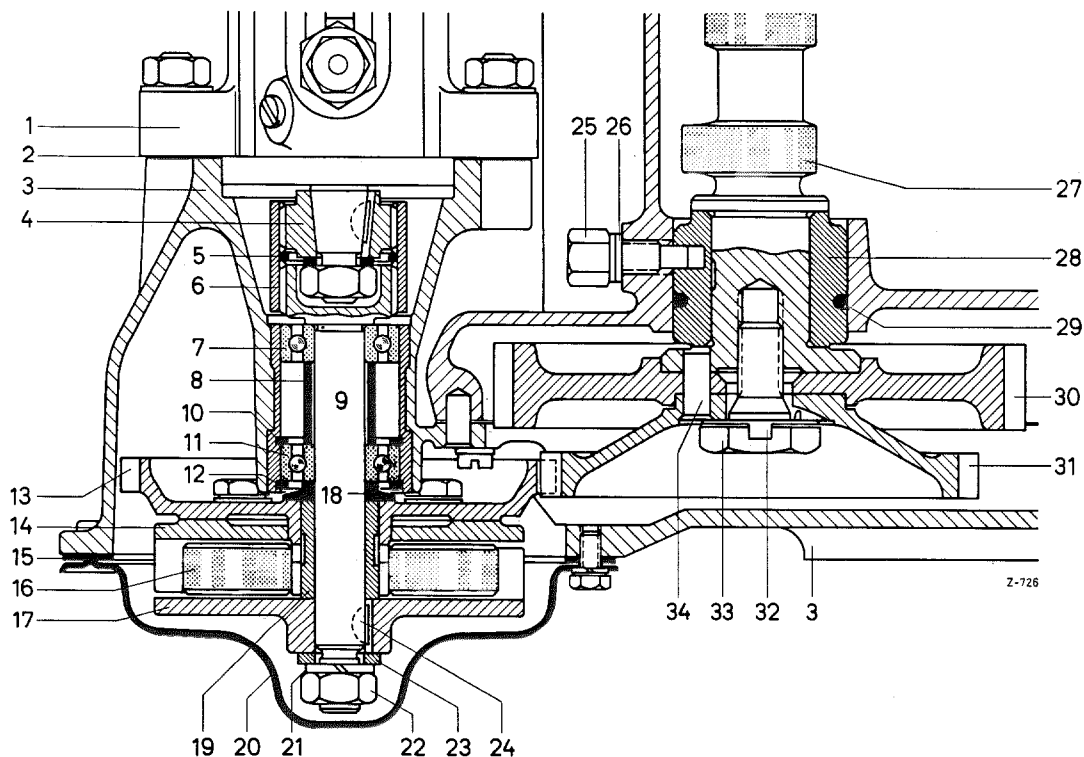

Figure 07-27/4
11. Oil the front annular grooved-bearing (11) and press it into the timing housing cover.
**Note:** If a new timing housing cover is installed, insert first the inner guard ring (10).
12. Insert the guard ring (12) in the front annular groove.
13. Press the rear annular grooved-bearing (7) onto the new longer driving shaft (9) Part No. 636 077 05 05.
14. Put the spacer (8) with a length of 24.2 mm on the driving shaft (9) and install the driving shaft in the timing housing cover (see Figure 07-27/4).
15. The thrust washer (18) Part No. 636 075 00 62 must be mounted on the driving shaft in such a way, that the small collar presses against the inner race of the annular grooved-bearing (11). **Make sure that this thrust washer is installed correctly**, because otherwise the pressure produced during tightening of the injection timing device is transmitted to the guard ring (12) instead of the inner race of the bearing (see Figure 07-27/4).